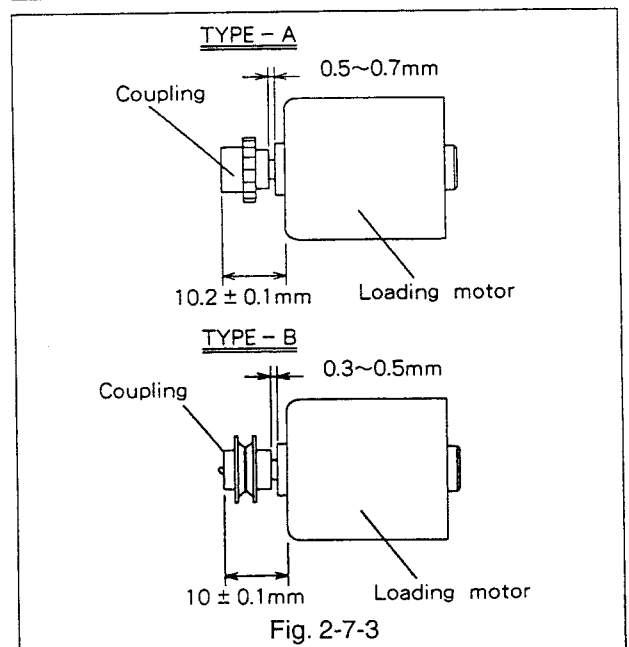

Fig. 2-7-3
- A. Fasten the coupling to a new loading motor.(Refer to Fig. 2-7-3.)